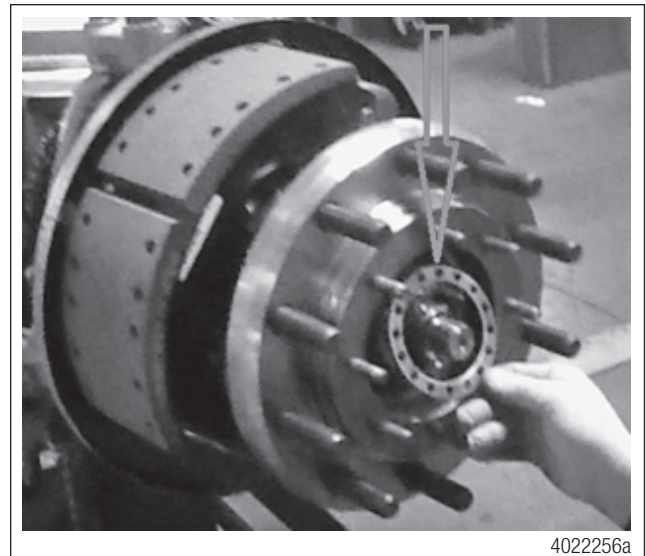

Figure 15
10. Remove the washer with the holes from the spindle. Figure 15.